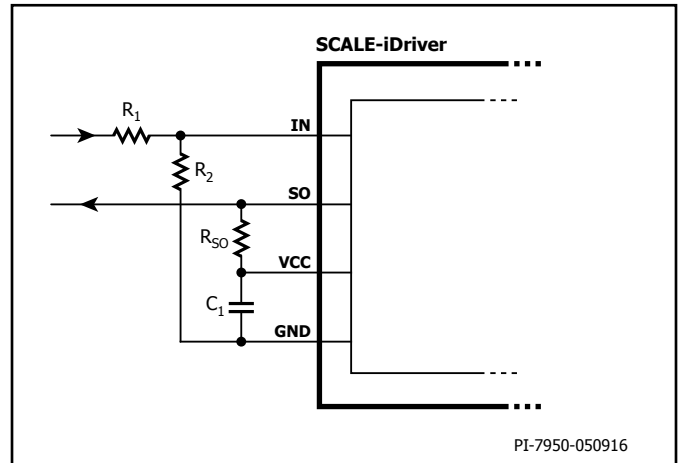

Figure 5. Increased Threshold Voltages V_{IN+LT} and V_{IN+HT} For $R_1 = 3.3\text{ k}\Omega$ and $R_2 = 1\text{ k}\Omega$ the IN Logic Level is 15 V.
The input (IN) and output (SO) logic is designed to work directly with micro-controllers using 5 V CMOS logic. If the physical distance between the controller and the SCALE-iDriver is large or if a different logic level is required the resistive divider in Figure 5, or Schmitt-trigger ICs (Figures 13 and 14) can be used. Both solutions adjust the logic level as necessary and will also improve the driver's noise immunity.